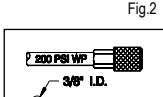

Fig.2
- Attach a high flow quick connect fitting to the tool. (See Fig. 2)